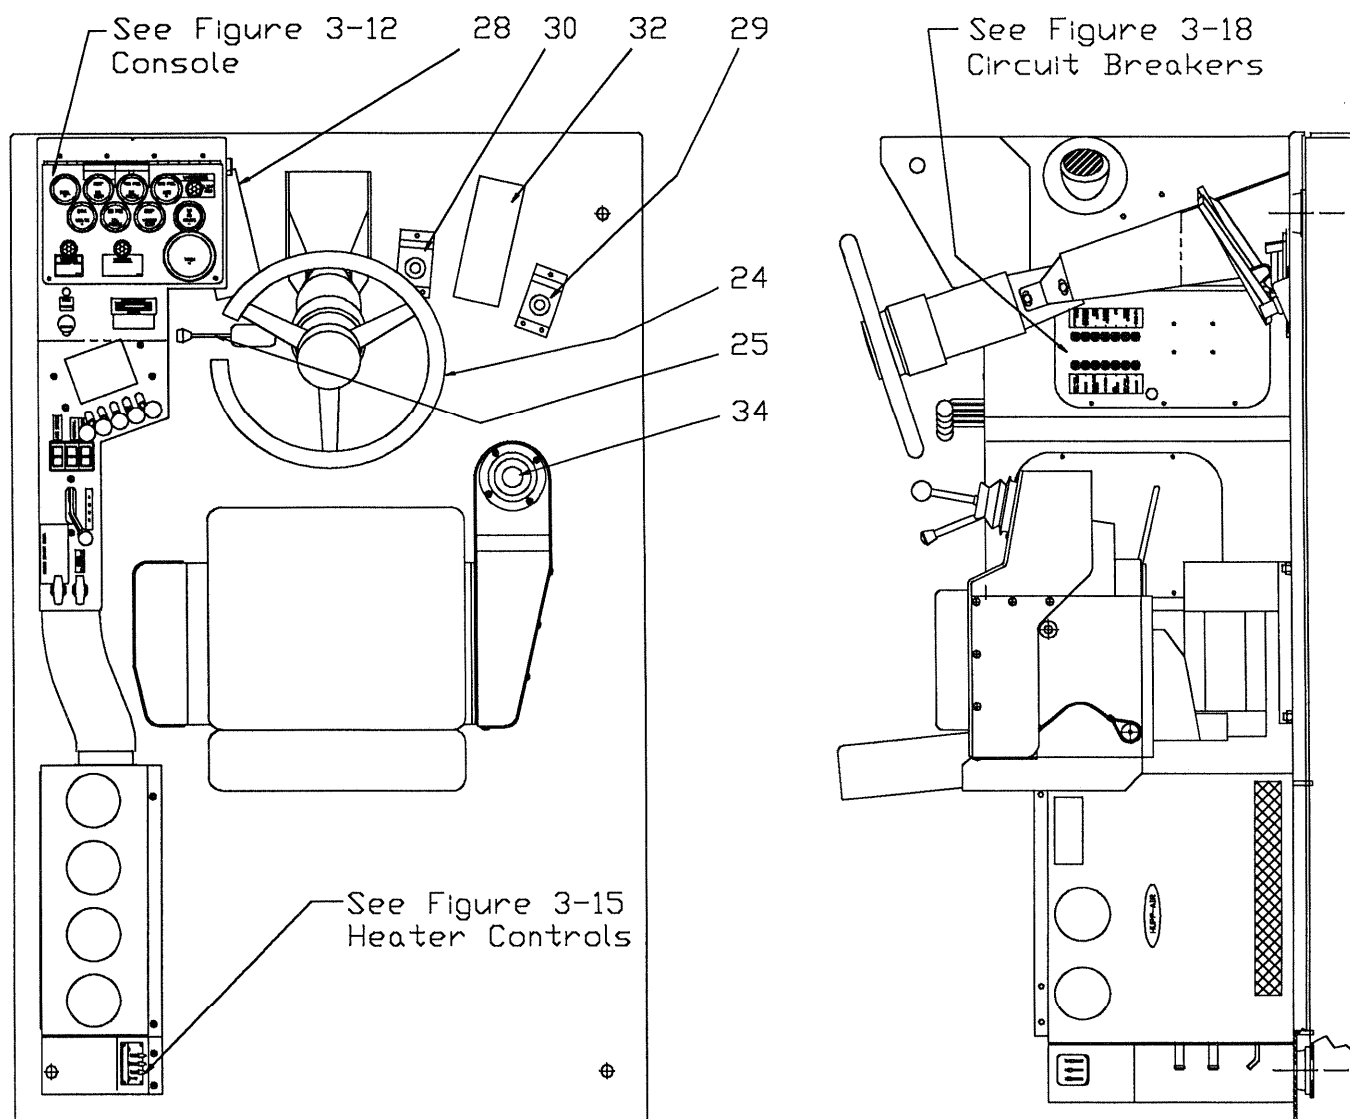

Fig. 3-1 Instruments and Controls
17. Grapple Indicator Lights See Fig. 3-1
24. Steering Wheel and Column See Fig. 3-1
25. Turn Signal (Optional) See Fig. 3-1